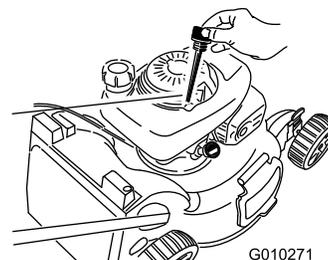

Figure 22
2. Retirez la jauge (Figure 22).